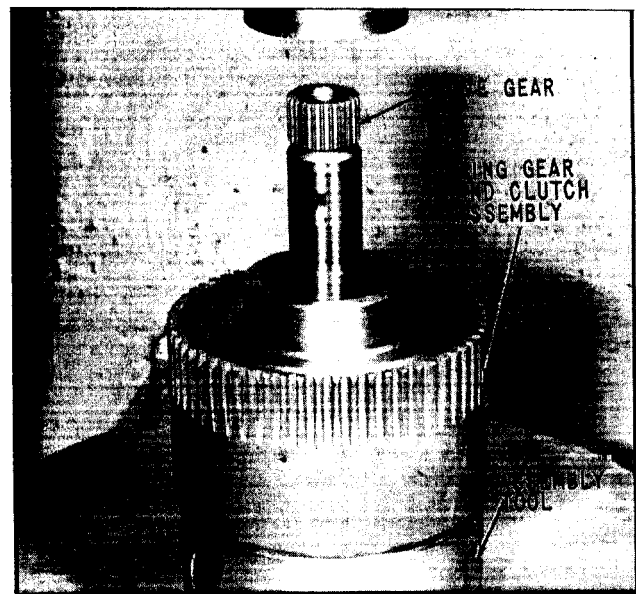

Fig. 48 Assembling Ring Gear and Clutch Assembly on Drive Gear
38. Lower ring gear and clutch assembly until internal teeth of clutch plates begin to engage teeth on forward clutch hub. Rotate ring gear to align teeth of plates with teeth on clutch hub. Do not force ring gear, as damage to teeth on plates will result. When ring gear and clutch are in correct position, rear end of ring gear should be against the assembly tool or "flush" with the rear thrust face of drive gear, as shown in (Fig. 48). Do not remove drive gear and clutch assembly from **assembly** tool or move drive gear forward until steps 39, 40 and 41 are completed. Any **movement** of the drive gear forward will result in the clutch plates becoming disengaged with clutch hub and sealing rings moving out of position.